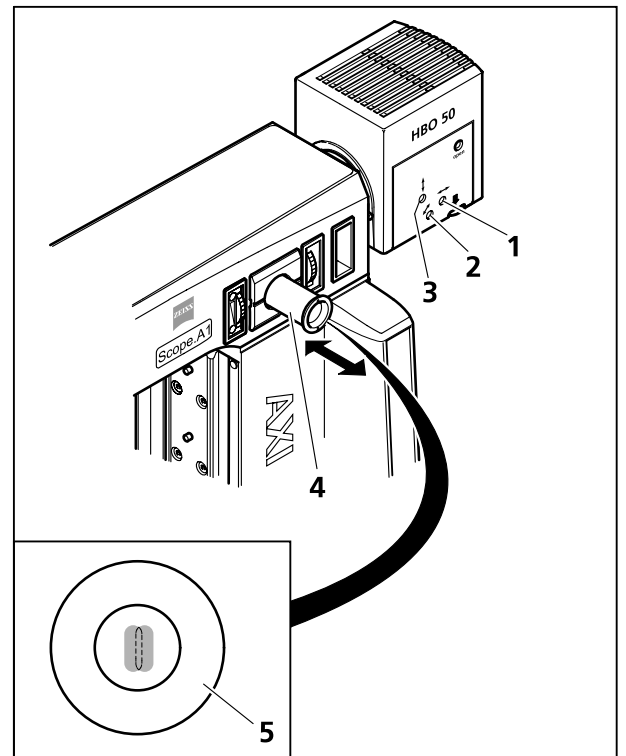

Fig. 3-30 Adjusting the HBO 50
- Pull out the adjustment aid (Fig. 3-30/4). The adjusting aid's display panel (Fig. 3-30/5) shows the burner's light arc (in a lighter color) and its reflection (slightly darker).
- With the aid of the adjustment screw (Fig. 3-30/1) adjust the burner axially to the mirror so that both light arcs appear the same size in the display panel of the adjustment aid (see Fig. 3-30/5).
- With the aid of the adjustment screws center the light arc and its reflection vertically (Fig. 3-30/3) and horizontally (Fig. 3-30/2) and position those in a parallel line within the adjustment circle of the display panel (Fig. 3-30/5). Light arc and reflection should not overlap.